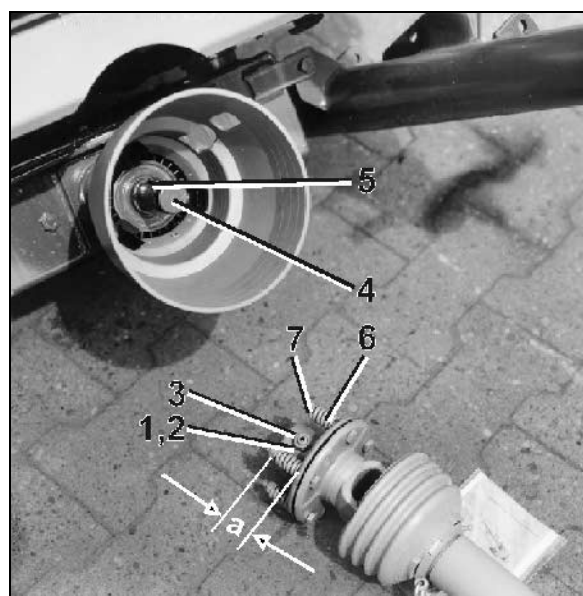

Fig. 33
If the shear bolt between connecting yoke- and gearbox input shaft repeatedly shears off and on tractors with roughly engaging tractor PTO the Walterscheid PTO shaft with friction clutch is recommended (Fig. 33).
7. Slacken counter nut (Fig. 33/1) inside connecting yoke from friction clutch (until the grub screw does not protrude the counter nut outside any longer). Unbolt inner hex. grub screw (Fig. 33/2) and check whether the connecting yoke can easily be pushed onto the PTO shaft.
10. Push connecting yoke (Fig. 33/3) with grease applied until the stop of the gearbox input shaft (Fig. 33/4).
Take care for a complete covering of the key (Fig. 33/5) !
11. Secure special PTO shaft against axial shifting. For this firmly tighten grub screw with Allen key and secure with nut (Fig. 33/1).
1. Slacken counter nut (Fig. 33/1) in connecting yoke from friction clutch. Drive out grub screw.